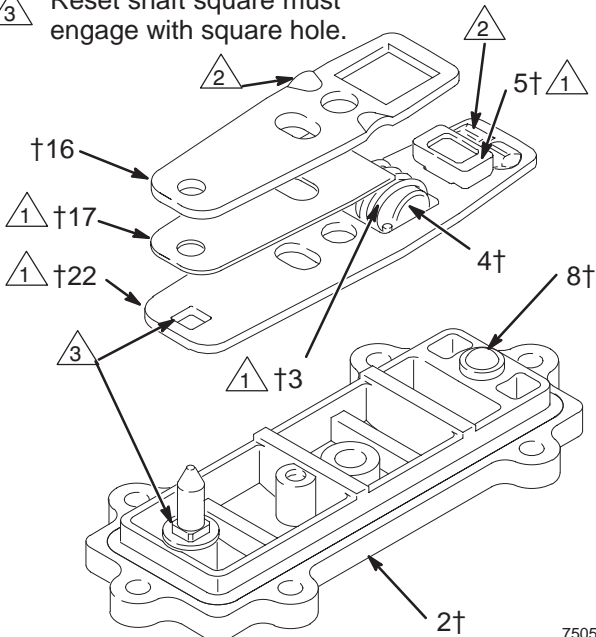
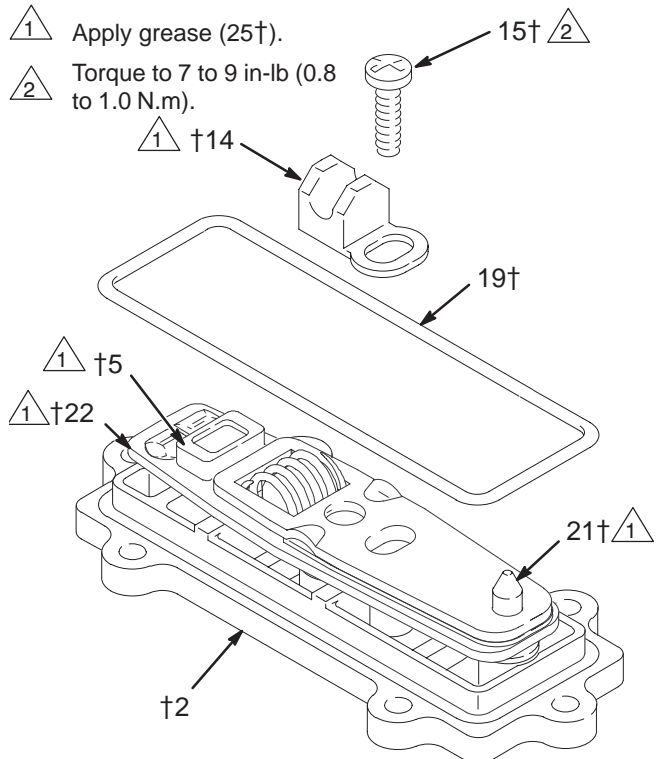

Fig. 16
Fig. 17
4. Grease the spring (3). Place the link stop (4) inside the spring. See Fig. 16.
5. Grease the detent link (22) and link spacer (17). Assemble the detent link, link spacer, and actuator link (16) as shown in Fig. 16. The raised bumps on the links (16 and 22) must face up.
6. Squeeze the spring (3) and install it and the stop (4) in the link assembly. The spring tension will hold all these parts together. Grease the valve cup (5) and install it in the link assembly as shown.
7. Install the link assembly onto the air valve cover (2) so the pointed end of the reset shaft (21) fits through the holes in the links and the square part of the shaft engages the square hole in the detent link (22). Make certain the bumps on the detent link (22) engage the detent ball (8).
8. Grease the inside surfaces of the shift saddle (14) and install it as shown in Fig. 17. Hold the link assembly firmly in place and install the screw (15). Torque to 7 to 9 in-lb (0.8 to 1.0 N-m). Install the o-ring (19) on the cover (2).